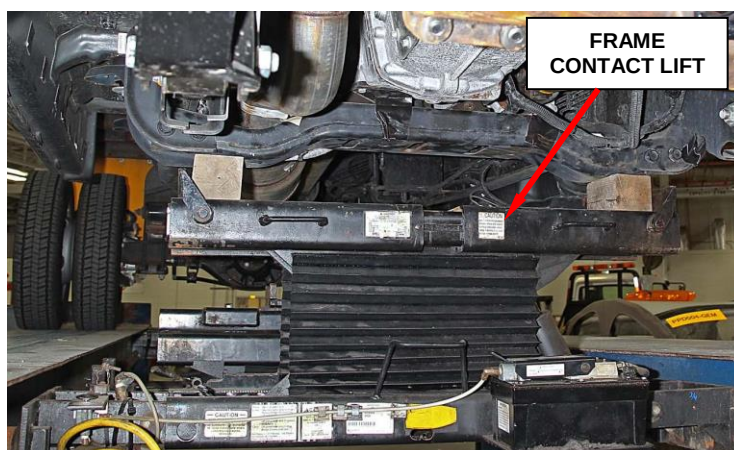

Figure 1 – Raise the Truck Slightly by the Frame
2. **For vehicles on a “drive-on” type hoist,** raise the vehicle by the frame slightly to gain the clearance required to insert the digital angle tool (Figure 1).